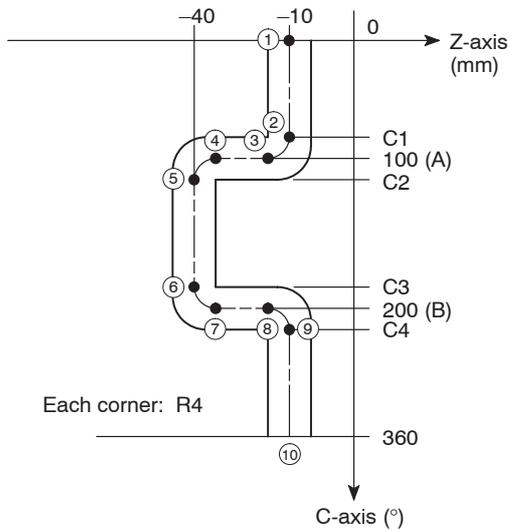

Fig. 5
Command values of points ① to ⑩ in Fig. 5 are indicated below.